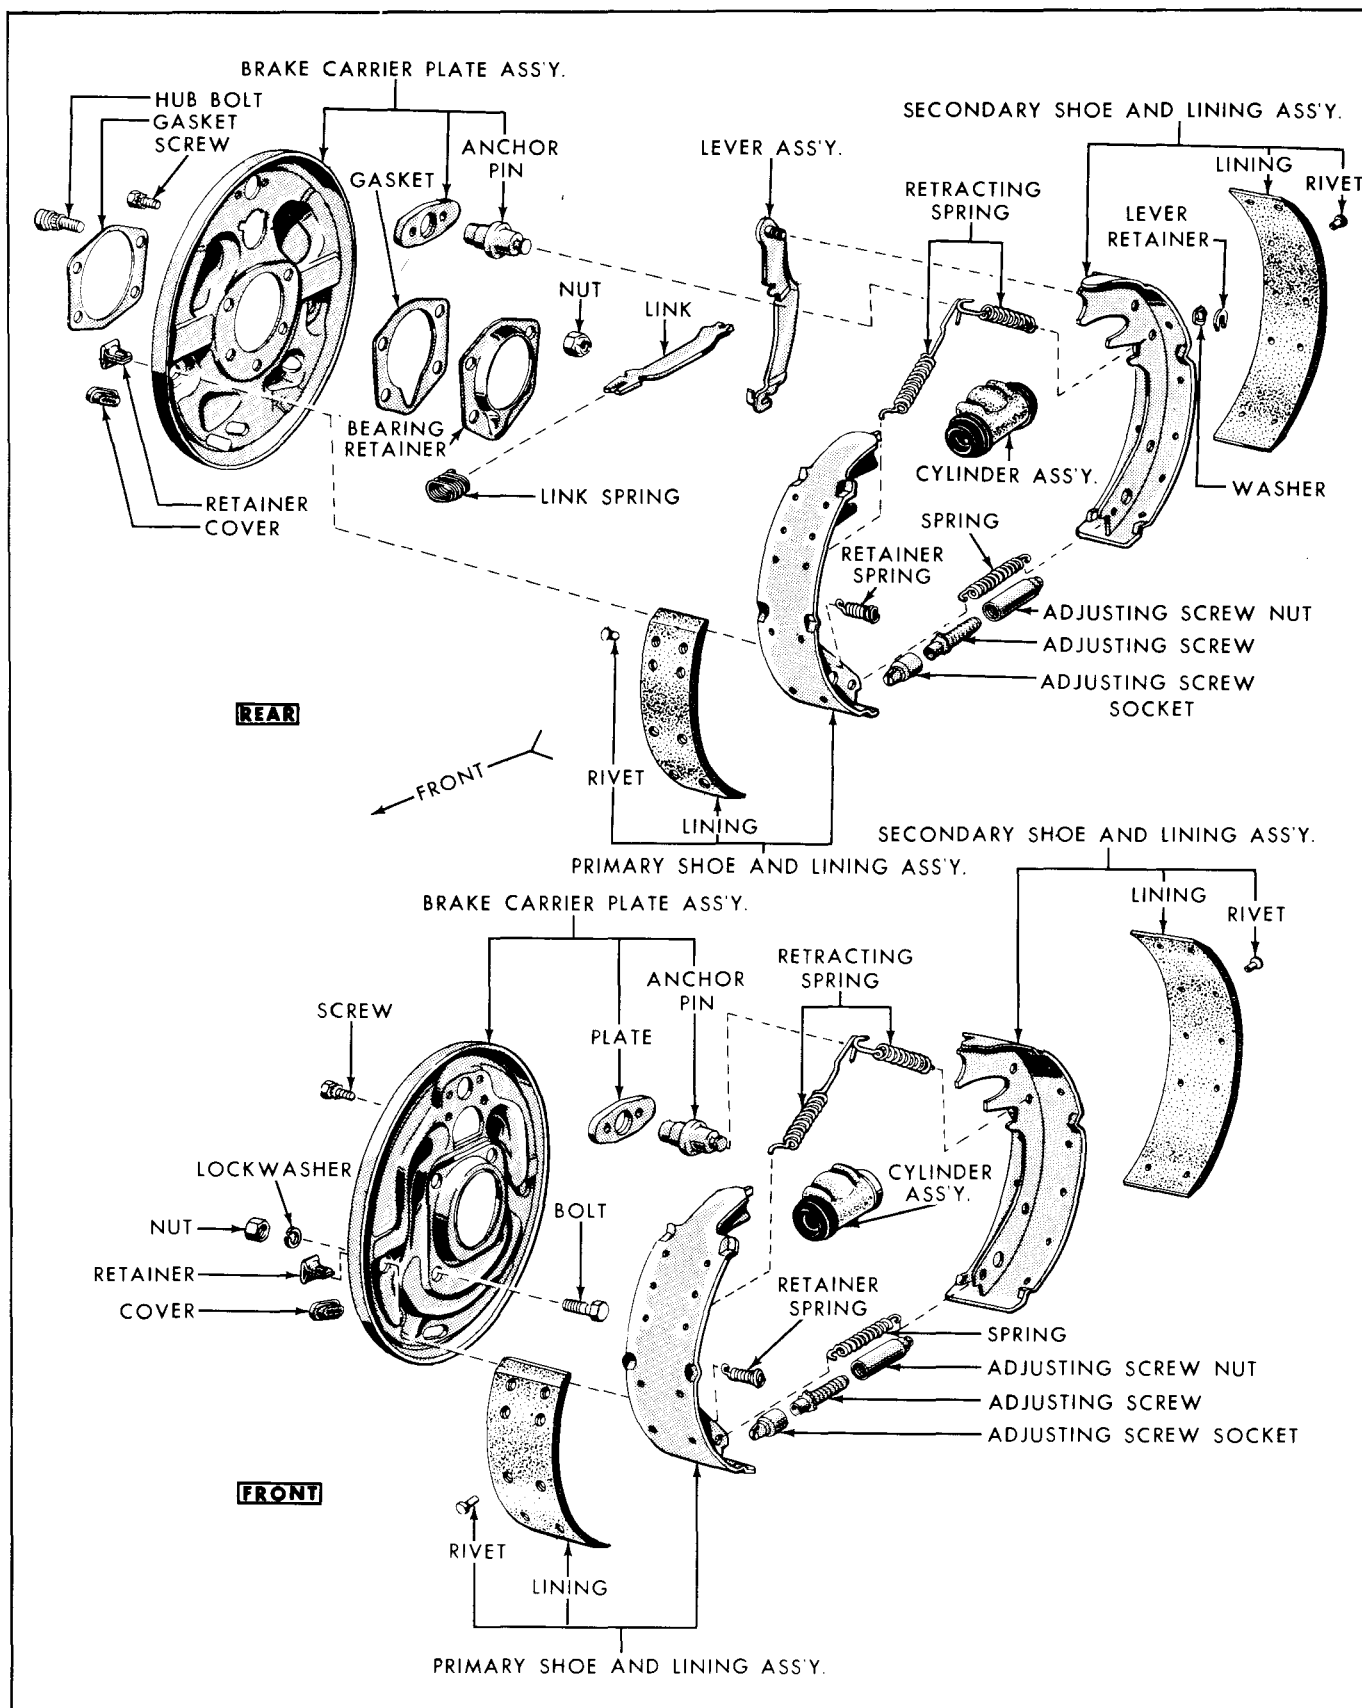

Fig. 2-9—Front and Rear Brakes—Disassembled—(60C-2009)
2. Position the brake shoes so that the secondary shoe will be at the rear when placed in its proper position against the carrier plate. See figure 2-9.